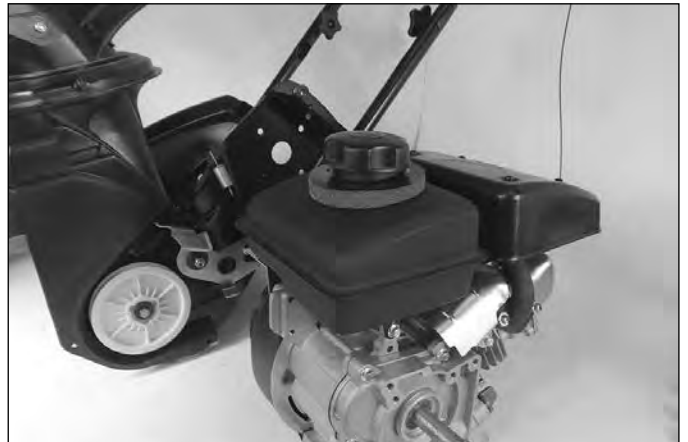

Fig. 006
6. Remove the engine from the chassis (Fig. 006).